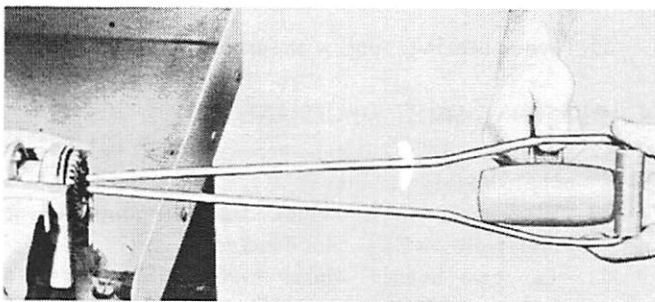

Figure 2. Pulling Reverse Gear from Bearing Carrier
8. Remove reverse gear from bearing carrier with C-91-27780 tool, as shown in Figure 2.